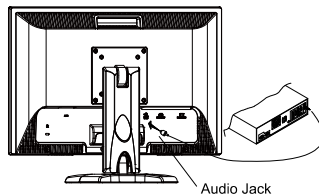

Figure1-6
1. Connect the audio cable to the "LINE OUT" jack on your PC's audio card or to the front panel's "AUDIO OUT" jack of your CD ROM drive. (See Fig. 1-6)